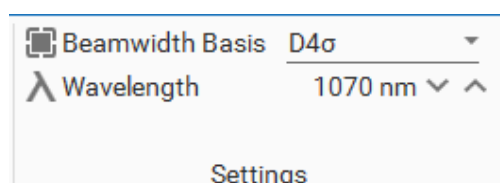

Figure 9: Settings Panel
- In BeamPeek, enter the laser wavelength in the **Settings** panel (Figure 9).